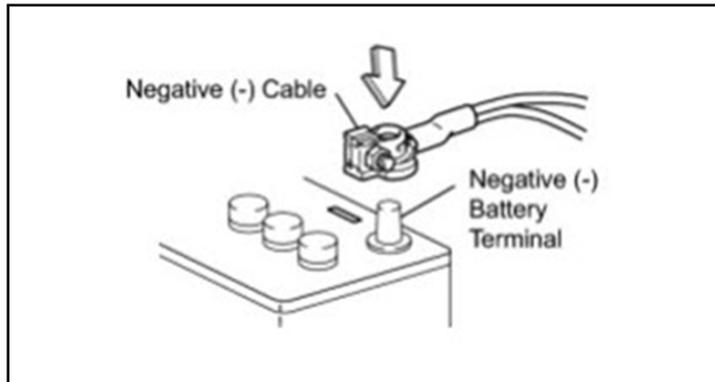

Figure 26
27. Tighten the negative battery cable. See figure 26.